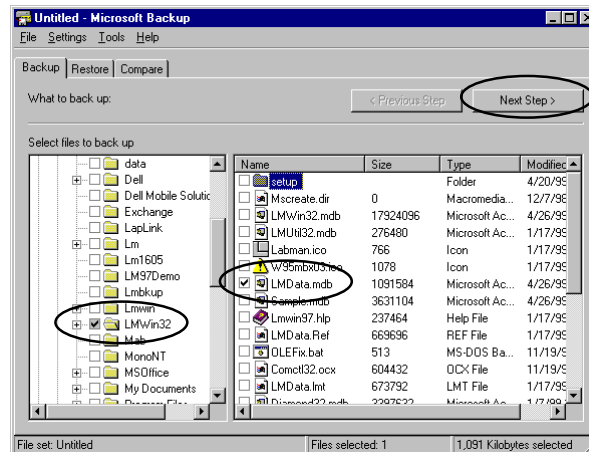

Figure 2
- 6) Click on the folder labeled **LMWIN** or **LMWIN32** depending on which version of Lab Manager you are using. This will cause the computer to list all of the files in that folder in the right window as shown in **Figure 2**.
- 7) Locate your data file in the right window, normally **LMDATA.MDB**, and place a check into the empty box to the left of the filename as shown in **Figure 2**.